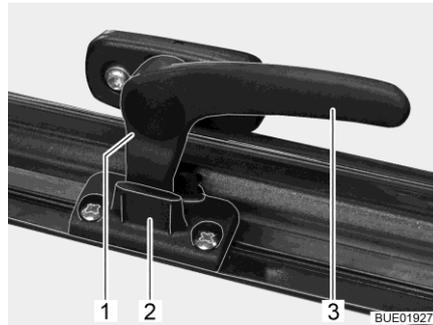

Fig. 21 Catch lever ("continuous ventilation" position)
- "Continuous ventilation" (Fig. 21)
- Turn the catch lever (Fig. 21,3) a quarter turn towards the centre of the window.
- Turn the catch lever a quarter turn towards the window frame. The locking catch (Fig. 21,1) has to be moved into the recess of window catch (Fig. 21,2).